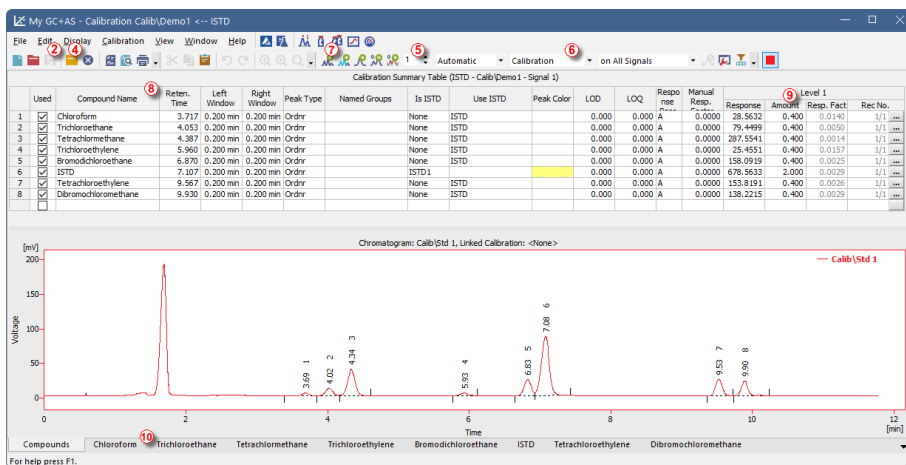

Fig. 9: Calibration window - loaded standard
- Only one signal of the chromatogram can be active at a time. The active signal can be recognized from the legend section ① in the upper right corner of the graph (active signal is set in bold), from the icons in the *Overlay* toolbar ② (the active signal has the highlighted  icon) or from the graph outline color and table headers color. Values inside the tables change by changing the active signal.
- Change the active signal by double clicking on its name in the legend section ① . Change the color of the currently active signal to another one by clicking on the *Not used color*  icon in the *Overlay* toolbar. All parts of the *Chromatogram* window mentioned in the previous step will change color.
- Click in any row in the *Result table* ③ . The peak (or peaks) corresponding to the row you just clicked into will change color according to the color of the signal. This change will last until the focus in the *Result table* is canceled.
- To add permanent color to the peak, click the *View* button ④ in the right side of the *Results* tab. This will get you to the linked calibration file. There, in the *Calibration Summary Table*, find the *Peak Color* column (see **Fig. 9** on pg. 21.). In the row corresponding to the peak to be colored select the appropriate color and click *OK*. Return to the *Chromatogram* window by using the  icon in the toolbar. The selected peak is now colored according to the color selected in the *Calibration* window (green in our case).
- You can change the integration of peaks by using the interactive icons in the toolbars on the left side of the *Chromatogram* window ⑤ , by using commands from *Chromatogram* menu ⑥ or directly in the *Integration* tab ⑦ . Any changes made either way will change the *Integration table* and can be copied to the template method. To do so, click on *Method - Save as Template...* menu command.
- It's recommended to check that the *Current Level* field ⑤ is set to 1, however, this is only for your orientation, because when *Calibration* option ⑥ is selected response is added to the first empty level regardless of which one is displayed. It is important to be on correct level when using *Recalibration* option. Use the *Add All* icon (blue) ⑦ to move all identified peaks to the calibration table. The Calibration table appears in the *Calibration* window, ready to be completed as seen on Fig. 9 on pg. 21.
- As it can be clearly seen in the calibration, particular peaks are now identified according to their retention times only. Click and edit the fields in the *Compound Name* column ⑧ to those seen on Fig. 9 on pg. 21. You may also set the peak color for some peak, for example the ISTD peak, in the *Peak Color* column.
- Fill the *Amount* column ⑨ with the concentration of the particular compounds. In this standard mixture, all compounds except for the peak number 6 have concentration of 0.4.
- The first calibration level is now set. On the tabs of the individual compounds ⑩ (named according to the *Compound Name* field) the graph with single-point linear calibration can be seen.
- Proceed to setting the other calibration levels. The operation is quite simple and straightforward - use the *Open Standard* icon (yellow) ④ again to open another calibration standard named STD 2.PRM. Use the *Add All* icon ⑦
- icon (blue) ⑦ . Fill in the *Amount* column with 1.0 values (except for the ISTD peak, in which the 2 value should be used again).
- Set the third calibration level accordingly using the STD 3.PRM file and *Amount* of 3.0 and the fourth level (file STD 4.PRM, *Amount* 5.0) except for the ISTD peak (*Amount* 2 every time). On the tabs of the individual compounds ⑩ , the linear four-point calibration can be seen. Save the calibration file now using the *Save Calibration*  icon ② under the name CALIBDEMO.CAL into the default directory.